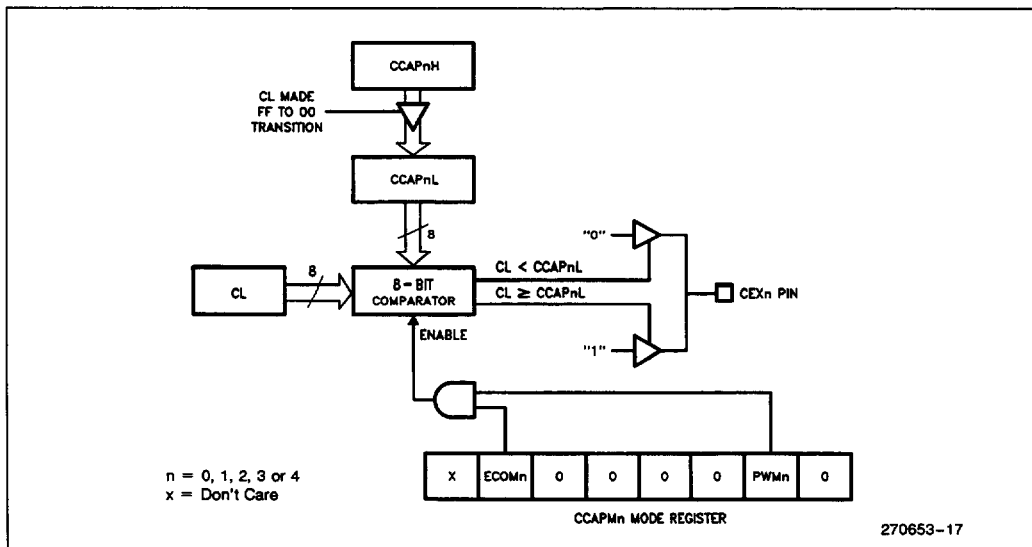

Figure 20. PCA 8-Bit PWM Mode
The PCA generates 8-bit PWMs by comparing the low byte of the PCA timer (CL) with the low byte of the module's compare registers (CCAPnL). Refer to Figure 20. When  $CL < CCAPnL$  the output is low. When  $CL \geq CCAPnL$  the output is high. The value in CCAPnL controls the duty cycle of the waveform. To change the value in CCAPnL without output glitches, the user must write to the high byte register (CCAPnH). This value is then shifted by hardware into CCAPnL when CL rolls over from 0FFH to 00H which corresponds to the next period of the output.